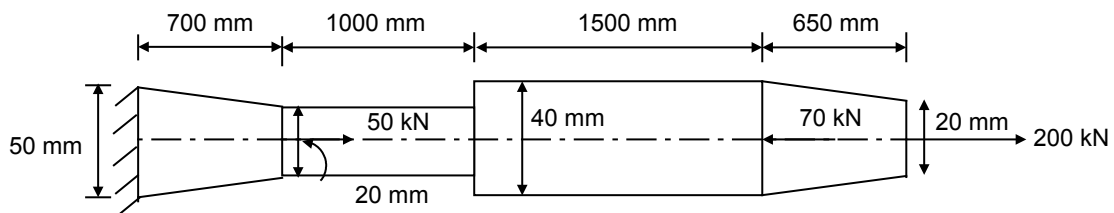

Figure 6
- Q.7 (a) Find out the elongation in the given compound, circular bar (Figure 6), assuming Young's modulus, $E = 120 \text{ kN/mm}^2$.